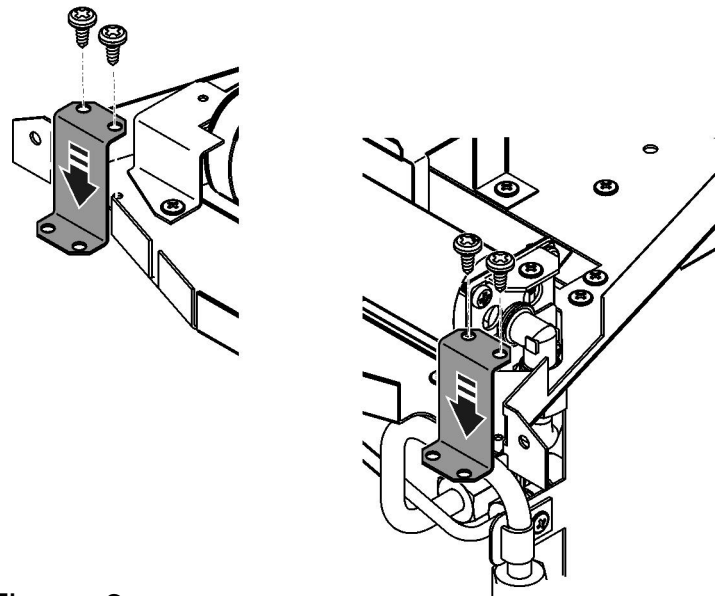

Figure 6.
4. Secure the front mounting brackets to the burner using four No.8 x 3/8 screws supplied (See figure 6).